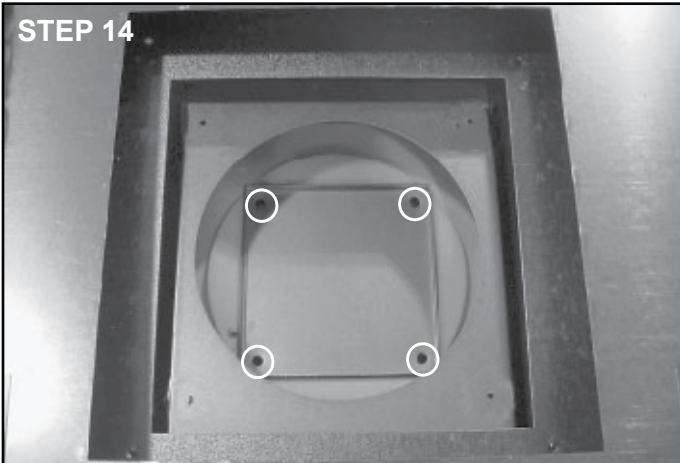

Figure 9.17 Inner Cover-Top of Appliance
- Place inner cover plate (removed in Step 9) on appliance top and replace four screws to hold inner cover plate in place. See Figure 9.17. Make sure gasket is replaced with the cover plate!